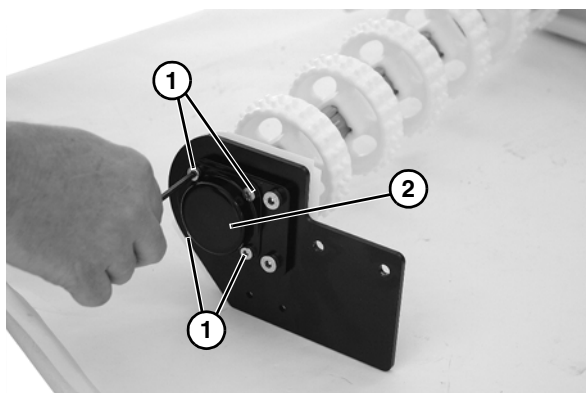

Figure 37
4. Remove the four socket head screws (Figure 37, item 1) and cover (Figure 37, item 2).